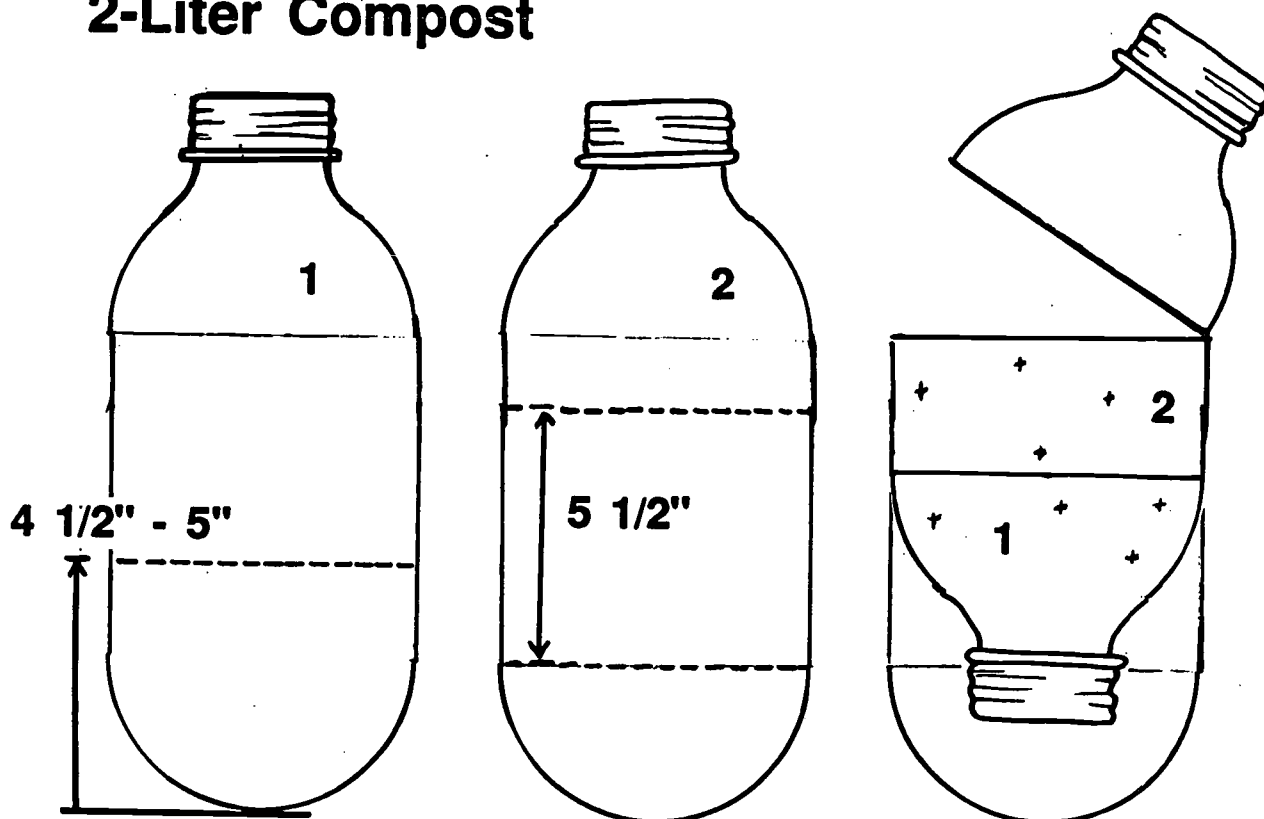

Fig.2
2. Draw cutting lines around the bottle using a felt tip pen or place a rubber band around the bottle as a guideline. (Fig. 2) Plan carefully before cutting. The bottle shape and location of the cuts affect how the bottles fit together. When in doubt, cut bottle pieces long; you can always shorten them.